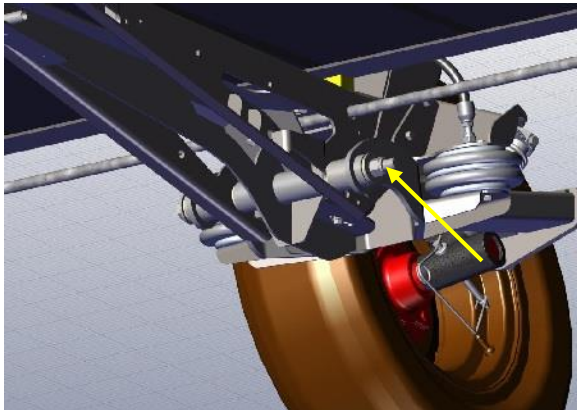

Figure 25
6. Remove the bolt retaining the mount to the main frame strut. **Note: Remember the position of all the bushings and washers.** Figure 25